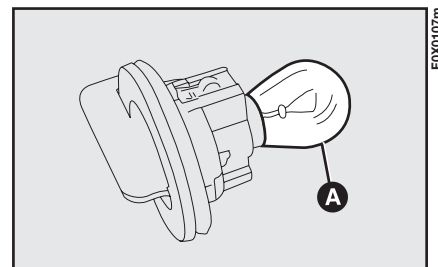

fig. 126
- remove bulb A-fig. 126 pushing it gently and turning it clockwise;